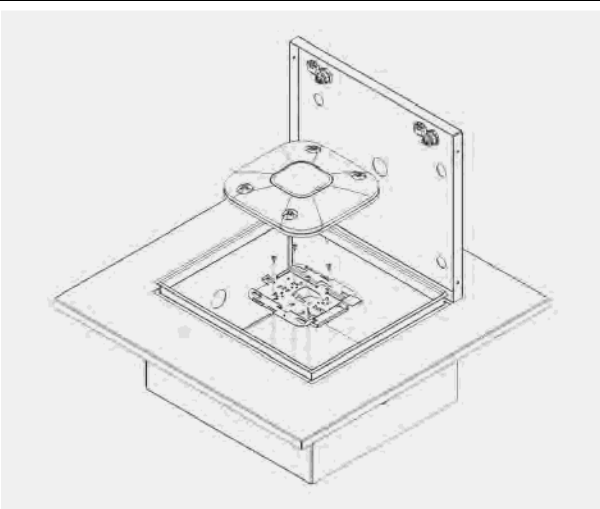

Figure 1
Step 2a – (For Cisco AP's Only) The mounting holes for Cisco AP's are located in the mounting plate. Standard Cisco mounting brackets as well as "Bracket 2" can be attached so the "Cisco" logo of the AP is parallel to the hinge. For "Bracket 1" the logo of the AP will be mounted perpendicular to the hinge. Securely fasten the *access point's mounting plate* to the mounting holes on the mounting plate of the enclosure using four (4) # 8 screws. Attach the *Access Point* to the mounting plate (Figure 1).